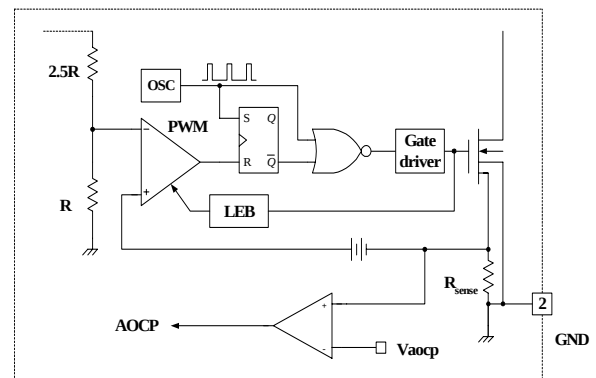

Figure 8. AOCB block
3.2 Abnormal Over Current Protection (AOCB) : Even though the FPSTM has OLP (Over Load Protection) and current mode PWM feedback, these are not enough to protect the FPSTM when a secondary side diode short or a transformer pin short occurs. The FPSTM has an internal AOCB (Abnormal Over Current Protection) circuit as shown in figure 8. When the gate turn-on signal is applied to the power Sense FET, the AOCB block is enabled and monitors the current through the sensing resistor. The voltage across the resistor is then compared with a preset AOCB level. If the sensing resistor voltage is greater than the AOCB level for longer than 300ns, the reset signal is applied to the latch, resulting in the shutdown of SMPS.